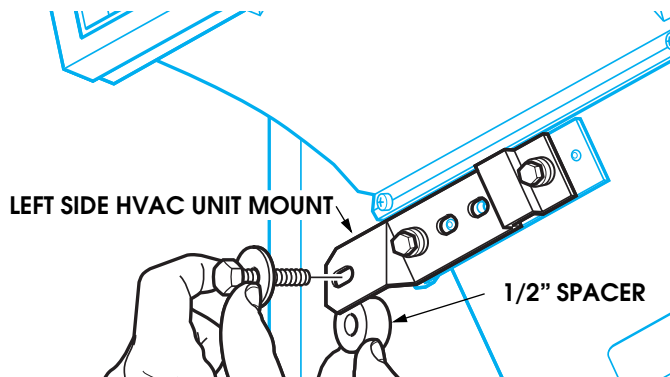

Figure 11-89: Left Side Mount and Spacer
3. Install left hand interior fastener with the 1/2" spacer. It may be necessary to loosen the bracket and slide it left or right to align the hole. Tighten fastener (Figure 11-89).